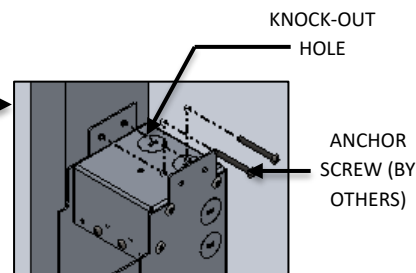

FIG. 9- DETAIL SHOWING KNOCK-OUT HOLE AND SCREWS
5. Remove the appropriate knock out for desired wire entrance location as shown in FIG. 9.